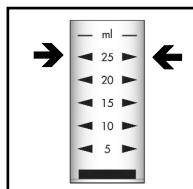

Figure 1
1. Fill the sample cup to the 25 mL mark with the sample to be tested, being careful to minimize turbulence (fig 1).